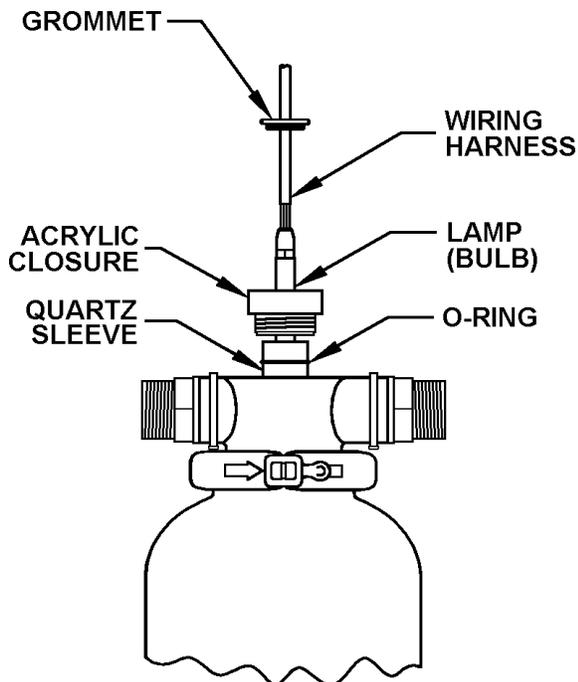

Figure 8.
5. Pull the wiring harness with the lamp attached, up out of the quartz sleeve (Figure 8). Use a CLEAN PAPER TOWEL to handle the lamp. The wire must be disconnected from the lamp before it can be fully removed.